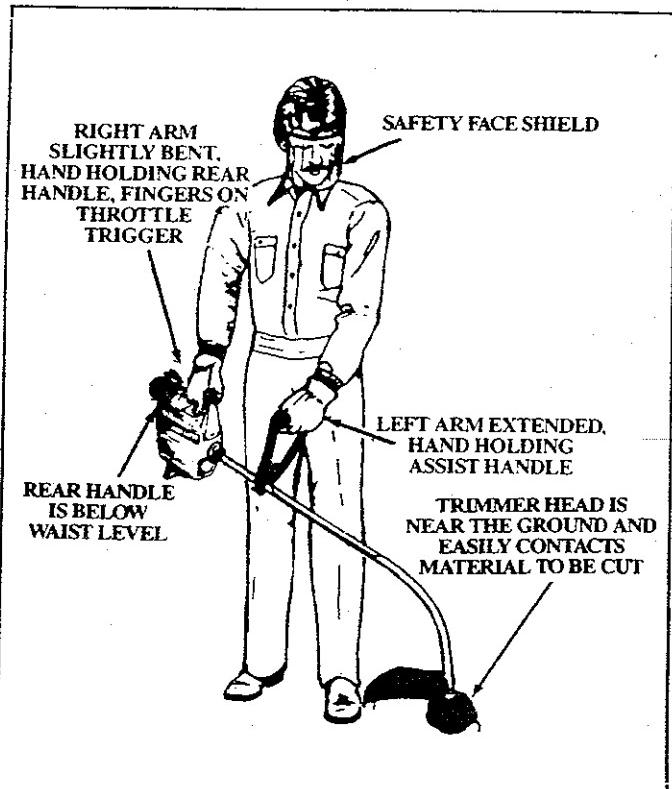

Figure 6
5. OPERATING POSITION — Figure 6
- a. Before starting the Engine, stand as shown in Figure 6 and check for the following: